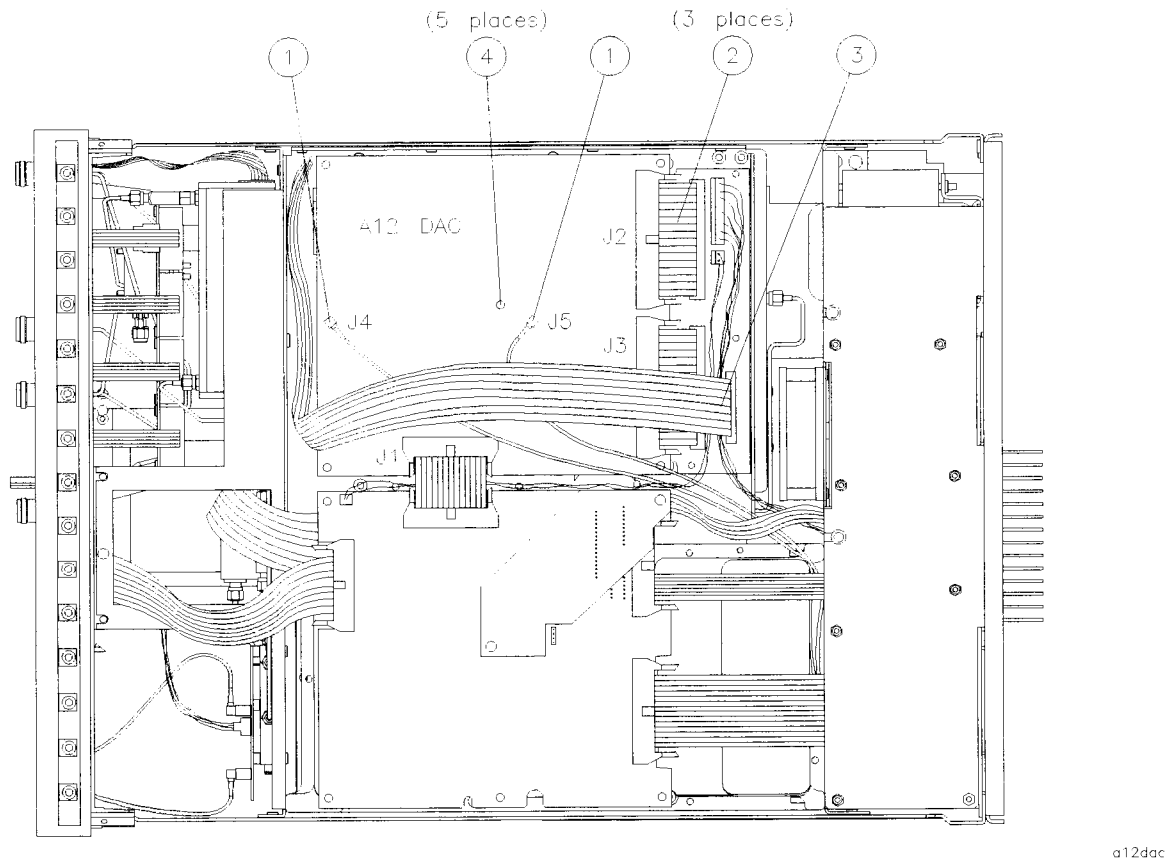

Figure 4-10 A12 DAC Board Replacement
3. Disconnect the two cables (J4 and J5) from the A12 DAC board (1). Refer to Figure 4-10 on page 4-22.
4. Disconnect the three ribbon cables (J1, J2, and J3) from the DAC board (2).
5. Disconnect the ribbon cable (J14) from the A10 motherboard (3).
6. Remove the five screws from the corners and center of the DAC board (4).
3. Replace the five screws on the corners and in the center of the DAC board (4). Refer to Figure 4-10.
4. Connect the ribbon cable (J14) to the A10 motherboard (3).
5. Connect the two cables (J4 and J5) to the DAC board (2).
6. Connect three ribbon cables (J1, J2, and J3) to the DAC board (1).